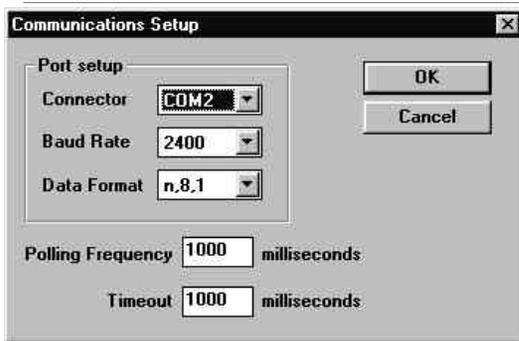

Figure 1.
2. From the OPTIONS menu, select COMMUNICATIONS. The COMMUNICATIONS SETUP window will appear (Figure 1).